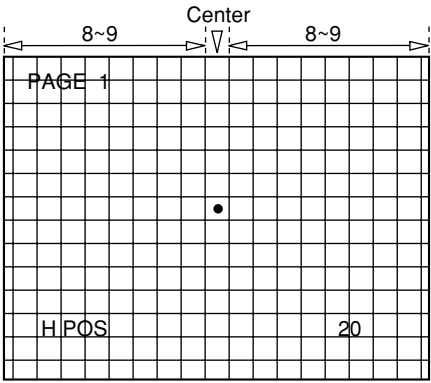

Fig. 1-1
- Use the volume keys on the jig remote controller to adjust the dot mark in the centre of crosshatch screen to the exact centering position by allocating an equal number of squares on the left and right side of the dot. (Fig. 1-1)